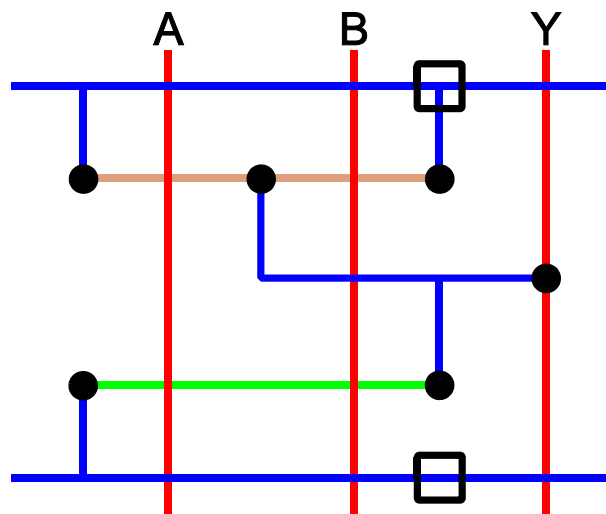

Figure 2 (A colour version of this figure can be found on a sheet accompanying this paper)
- (b) Figure 2 below is a stick diagram for a 2 input NAND gate which is to be realized in 0.3 μm CMOS (based on the sample design rules provided):